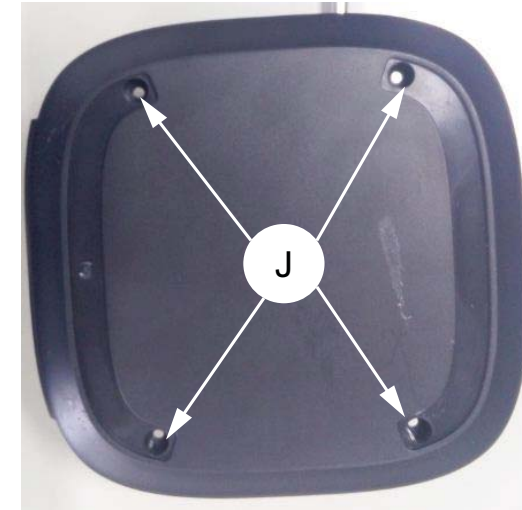

Figure 12
- 1) First remove the rubber foot at the bottom cover ,then Loosen 4 screws "J" as shown in figure 12.